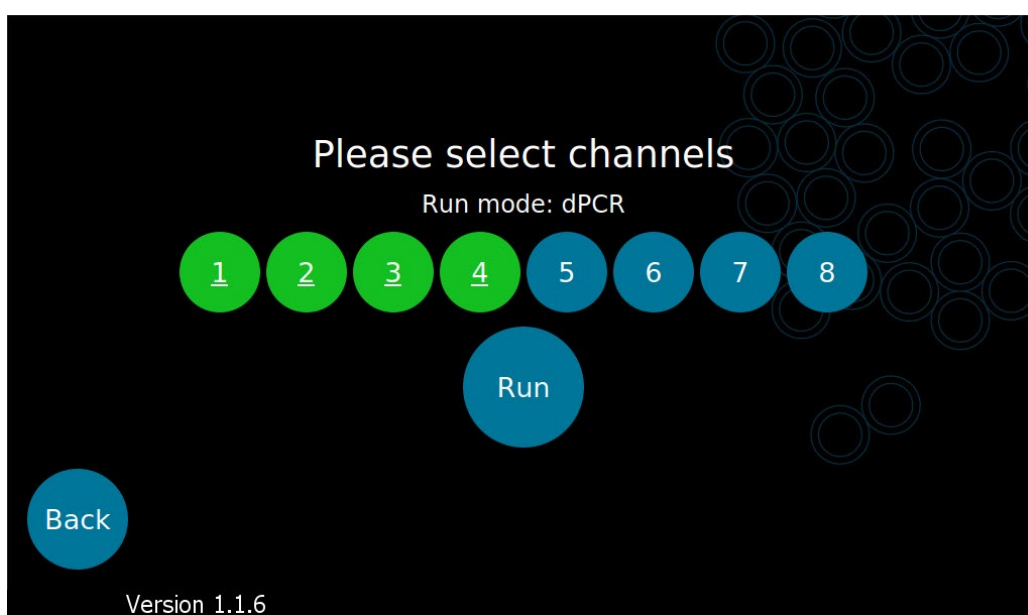

Fig. 3.7. Selecting the lanes to be used. Selected channels will be indicated by green buttons (here: 1 to 4). Blue buttons indicate channels not yet selected.
15. The lanes to be processed are selected by pressing the corresponding numbers 1-8 on the screen. When selected, buttons turn green (green = selected and blue = not selected) (Fig. 3.7).